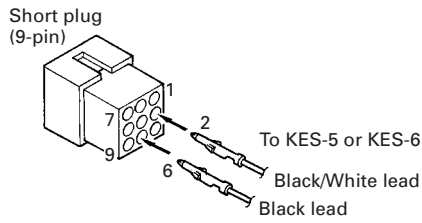

Fig. 6-1-3
3. Reinsert the terminal with the black and white stripe lead into hole number 2, and the terminal with the black lead into hole number 6 (Fig. 6-1-3).